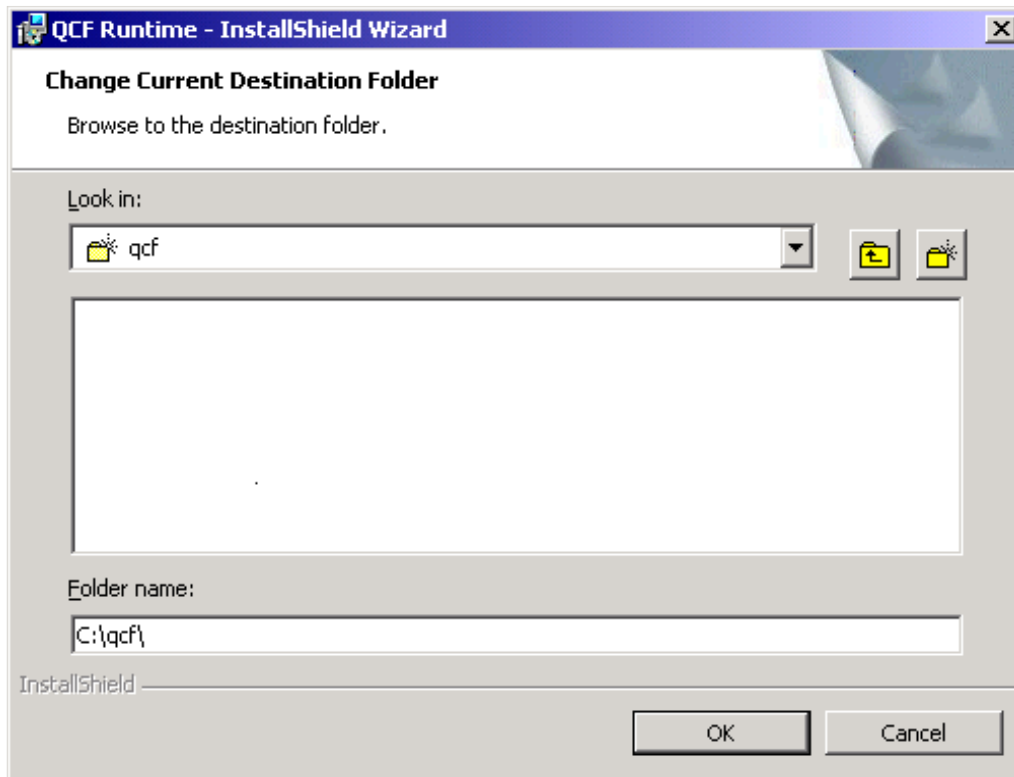

FIGURE 167. Changed destination
13. Replace the existing directory with c:\qcf\ so that it looks like Figure 167.